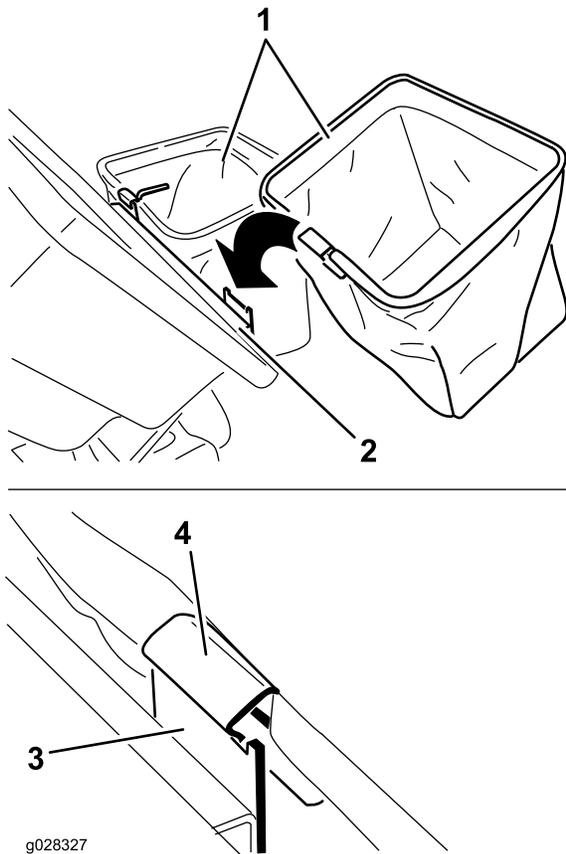

Figure 14
- Install the bags by sliding the bag frame hooks onto the retaining brackets (Figure 14).